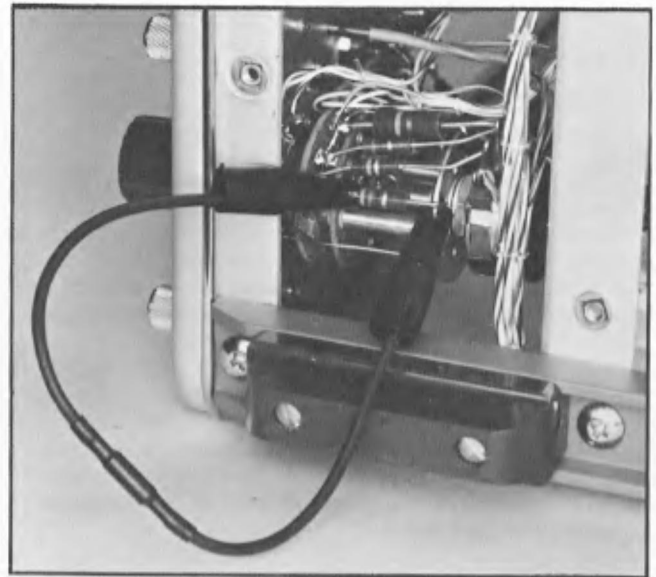

Fig. 5-9. Grounding the junction of the 6.8 kΩ and 22 kΩ resistors.
3. Ground the junction of the 6.8 kΩ and 22 kΩ resistors on each LEVEL control switch as shown in Fig. 5-9. Both displays should remain on the crt.